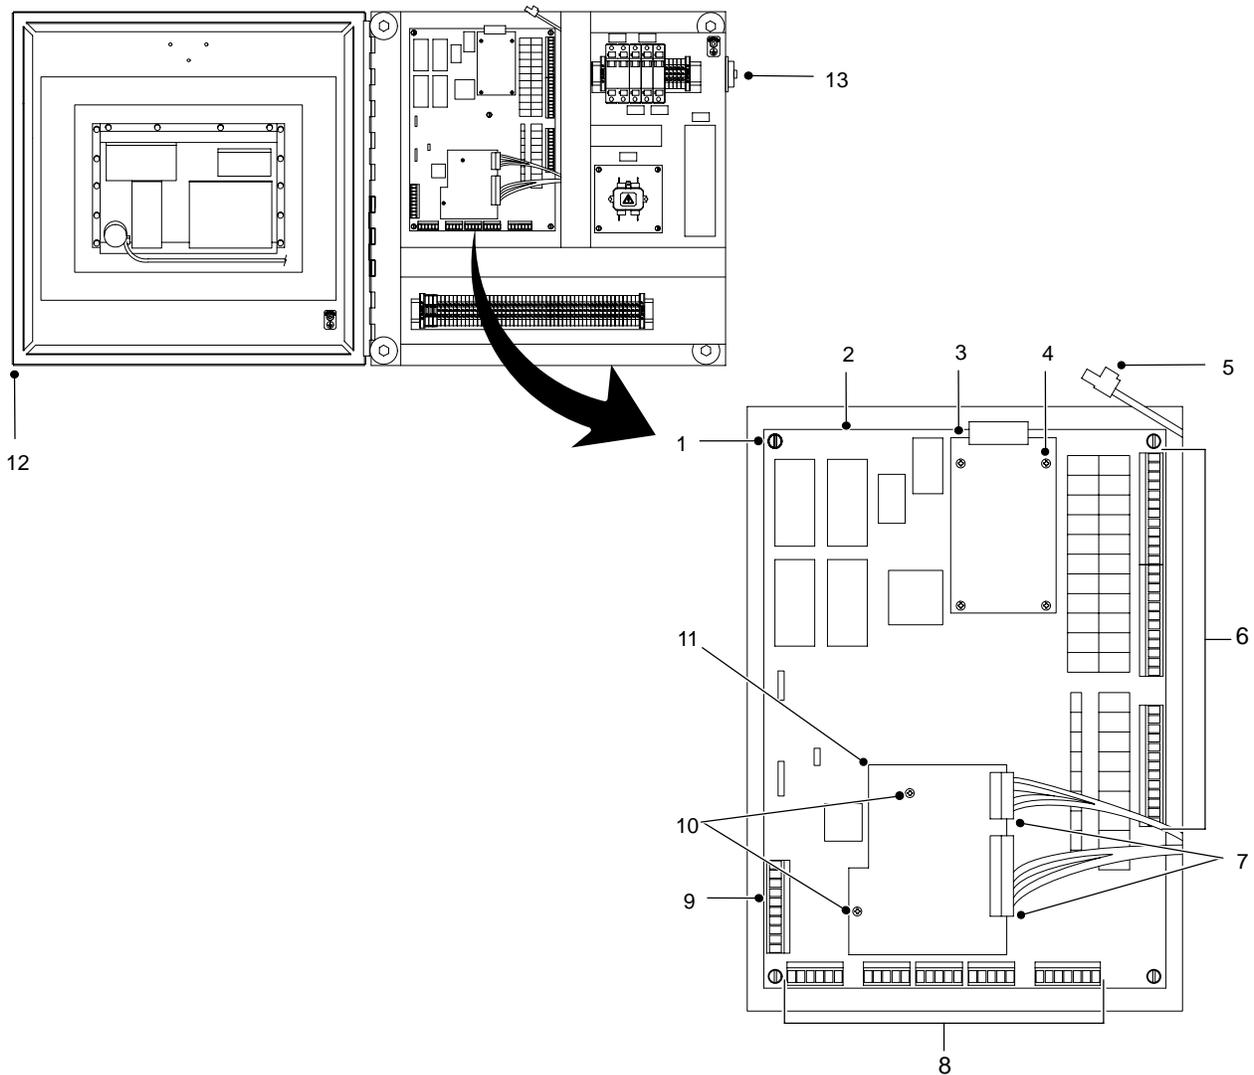

Figure 10 Replacing Circuit Boards
2. See Figure 10. Open the enclosure door (12).
3. Disconnect the electrical connectors (6, 8, 9) from the Process Sentry PCA (2).
4. Disconnect the electrical connectors (5, 7) from the hybrid PCB (3) and Pro-Flo PCA (11).
5. Remove the screws (4, 10) from the hybrid PCB (3) and Pro-Flo PCA (11).
6. Remove the screws (1) securing the Process Sentry PCA (11) to the enclosure.
7. Install the hybrid PCB (3) and Pro-Flo PCA (11) to the new Process Sentry PCA (2) using the screws (1). Tighten the screws securely.
8. Install the Process Sentry PCA (2) to the enclosure using the screws (1). Tighten the screws securely.
10. Close the enclosure door (12).
2. See Figure 10. Turn off the power switch (13).
3. Open the enclosure door (12).
4. Disconnect the electrical connector (5) from the hybrid PCB (3).
5. Remove the screws (4) securing the hybrid PCB (3) to the Process Sentry PCA (2).
6. Install the new hybrid PCB (4) to the Process Sentry PCA (2) using the screws (4). Tighten the screws securely.
7. Connect the electrical connector (5).
8. Close the enclosure door (12).
2. See Figure 10. Turn off the power switch (4).
4. Disconnect the electrical connectors (7) from the Pro-Flo PCA (11).
5. Remove the screws (10) securing the Pro-Flo PCA (11) to the Process Sentry PCA (2).
6. Install the new Pro-Flo PCA (11) to the Process Sentry PCA (2) using the screws (10). Tighten the screws securely.
7. Connect the electrical connectors (7).